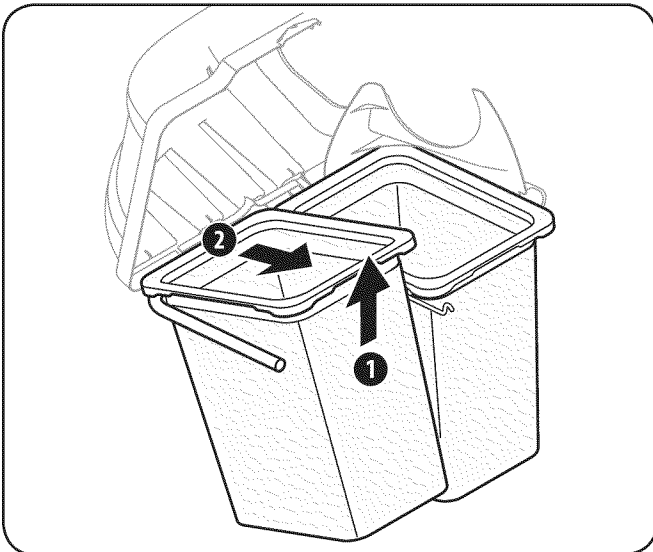

Figure 29
3. Remove the grass bags by lifting these up (1) and moving the bags away from the bag support assembly (2). See Figure 29.